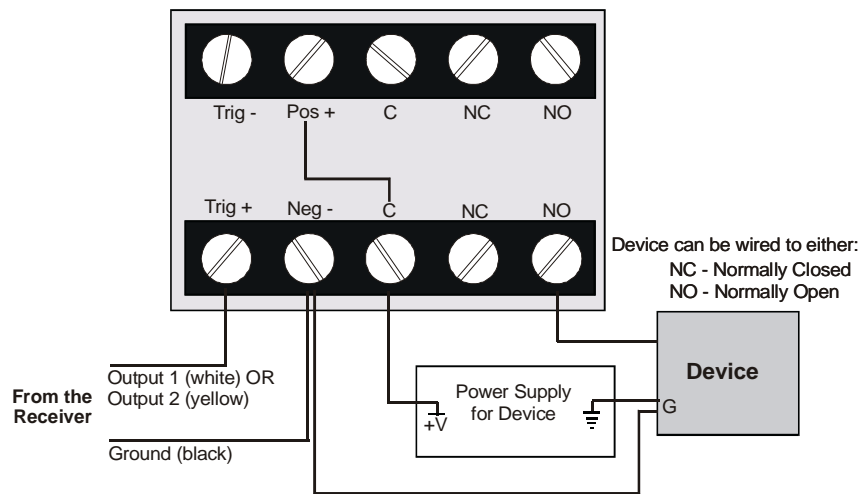

Figure 21 Wiring a relay
- Step 6:** Wire an external relay according to Figure 21. Altronix RBSN-TTL ultra-sensitive relay module is recommended.